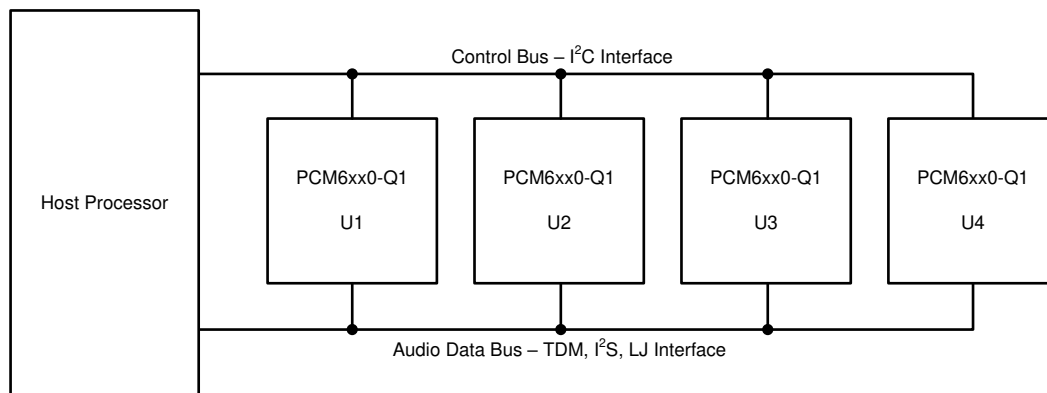

Figure 1. Four PCM6xx0 Devices With Shared Control and Audio Data Buses
For PCM6xx0 applications requiring more than the channels supported by a single device, multiple PCM6xx0 devices can share a common bus. For systems with up to 16 analog input channels, up to four PCM6x40 devices can share a single control and audio data bus to minimize board routing area. For systems with up to 24 analog input channels, up to four PCM6x60 devices can share a single control and audio data bus to minimize board routing area. PCM6xx0 supports a control bus using the I²C interface and an audio serial bus using a time-division multiplexed (TDM), Inter-IC Sound (I²S), or Left-justified (LJ) interface. Figure 1 shows a diagram of four PCM6xx0 devices sharing the control and audio data buses.
For proper operation of the audio bus in TDM mode, the number of bit clocks per frame must be greater than or equal to the number of active output channels times the programmed word length of the output channel data, as shown in Equation 1. For the example shown in Figure 1 with four devices, each with four channels, at a 48-KHz sampling rate and 32-bit word length, $BCLK \geq 4 \times 4 \times 48\,000 \times 32 = 24.576$ MHz. Since the maximum supported BCLK is 25 MHz, the maximum number of devices is dependent on the number of channels used, sample rate, and word length that maintains a bit clock (BCLK) under 25 MHz.